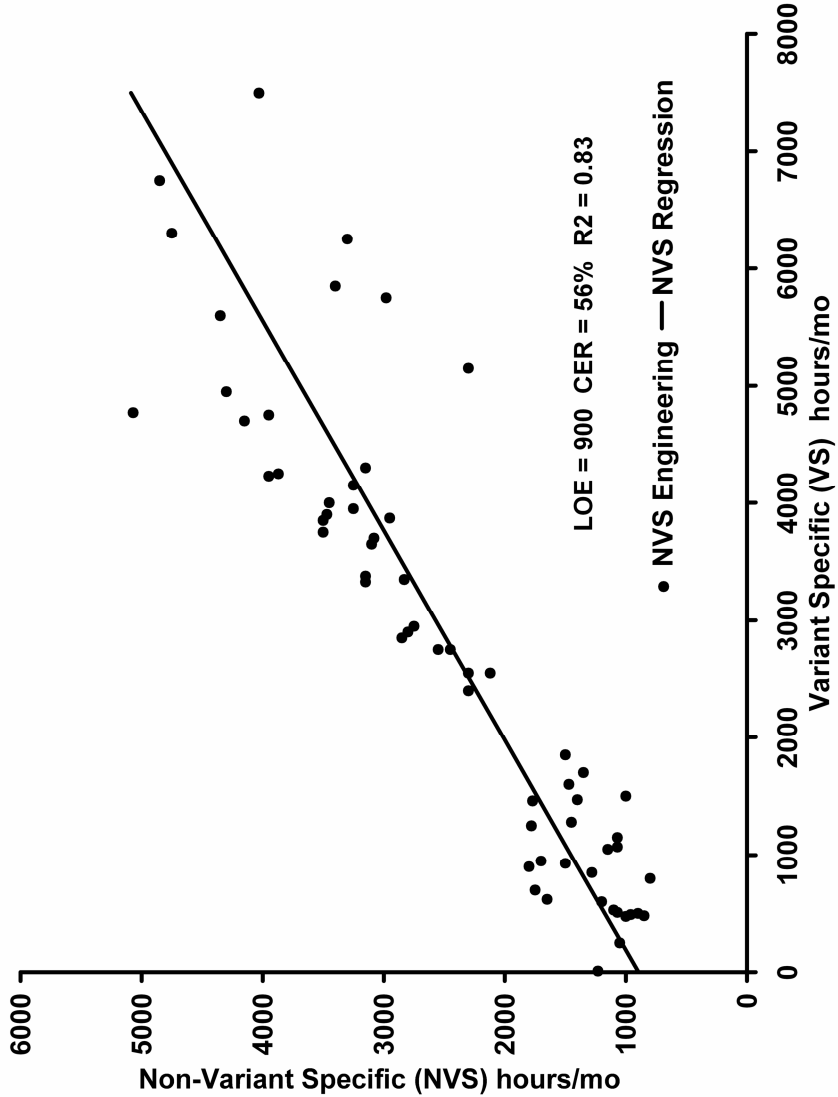

Figure 2.2 Estimating with Factors
As a real world example, Figure 2.2 illustrates the excellent correlation between a Systems Engineering group, labeled non-variant specific (NVS), and the underlying Engineering groups, labeled variant specific (VS) that they supported. VS groups would include mechanical design, electrical design, software programming, etc., that is, groups that have many discrete, clearly defined engineering products. The data compares the person-hours expended each month by the VS and NVS groups over a 5-year period. In this case, the fixed-cost term, the LOE, is seen to be 900 hours per month with a variable factor of 56%. So this group would be estimated as an LOE plus 56% of the loading group in your plan for the directly estimated Engineering groups that produce drawings, software, etc.
The $R^2 = 0.83$ shown on Figure 2.2 is more correctly σ^2 which is the correlation coefficient for the fit. Anything above 0.5 is often usable, with something above 0.8 being a good practical fit. Experience also suggests that you will have enough cost data scatter that you should settle for simple curve fits. One should mainly try linear fits on either linear, log, or semi-log axes. This type of cost correlation has been found to estimate